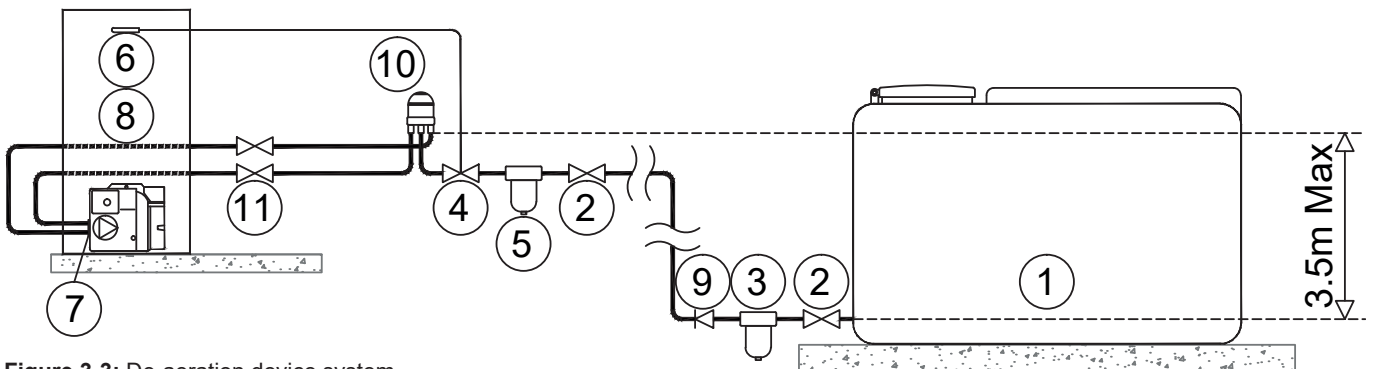

Figure 3-3: De-aeration device system
3.1.5 SINGLE PIPE (SUCTION) SYSTEM WITH DEAERATOR - (REFER TO FIGURE 3-3)
The deaerator must be mounted vertically at the same level as (or above) the burner oil pump. Refer to Figure 3-3.